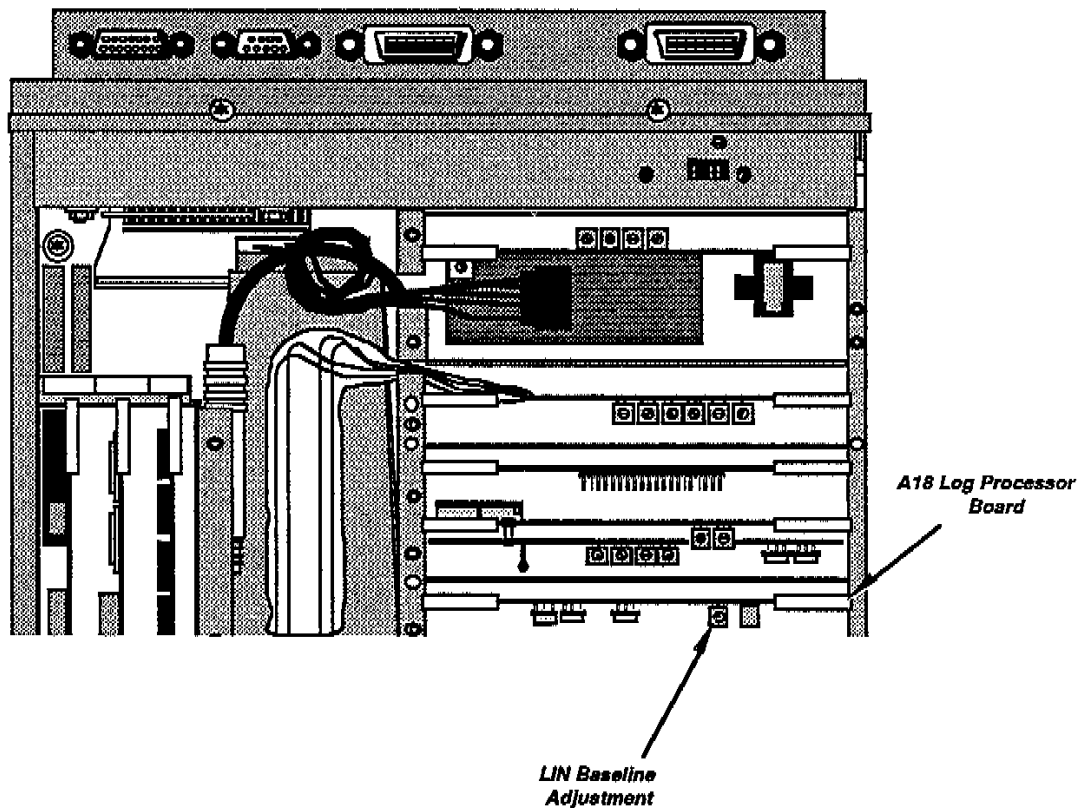

Figure 3-12. Lin Baseline Adjustment.
4. Adjust the LIN OFFSET adjustment on the log processor board (shown in Figure 3-12) so that the lin baseline is just over the bottom graticule line. Do not over adjust.